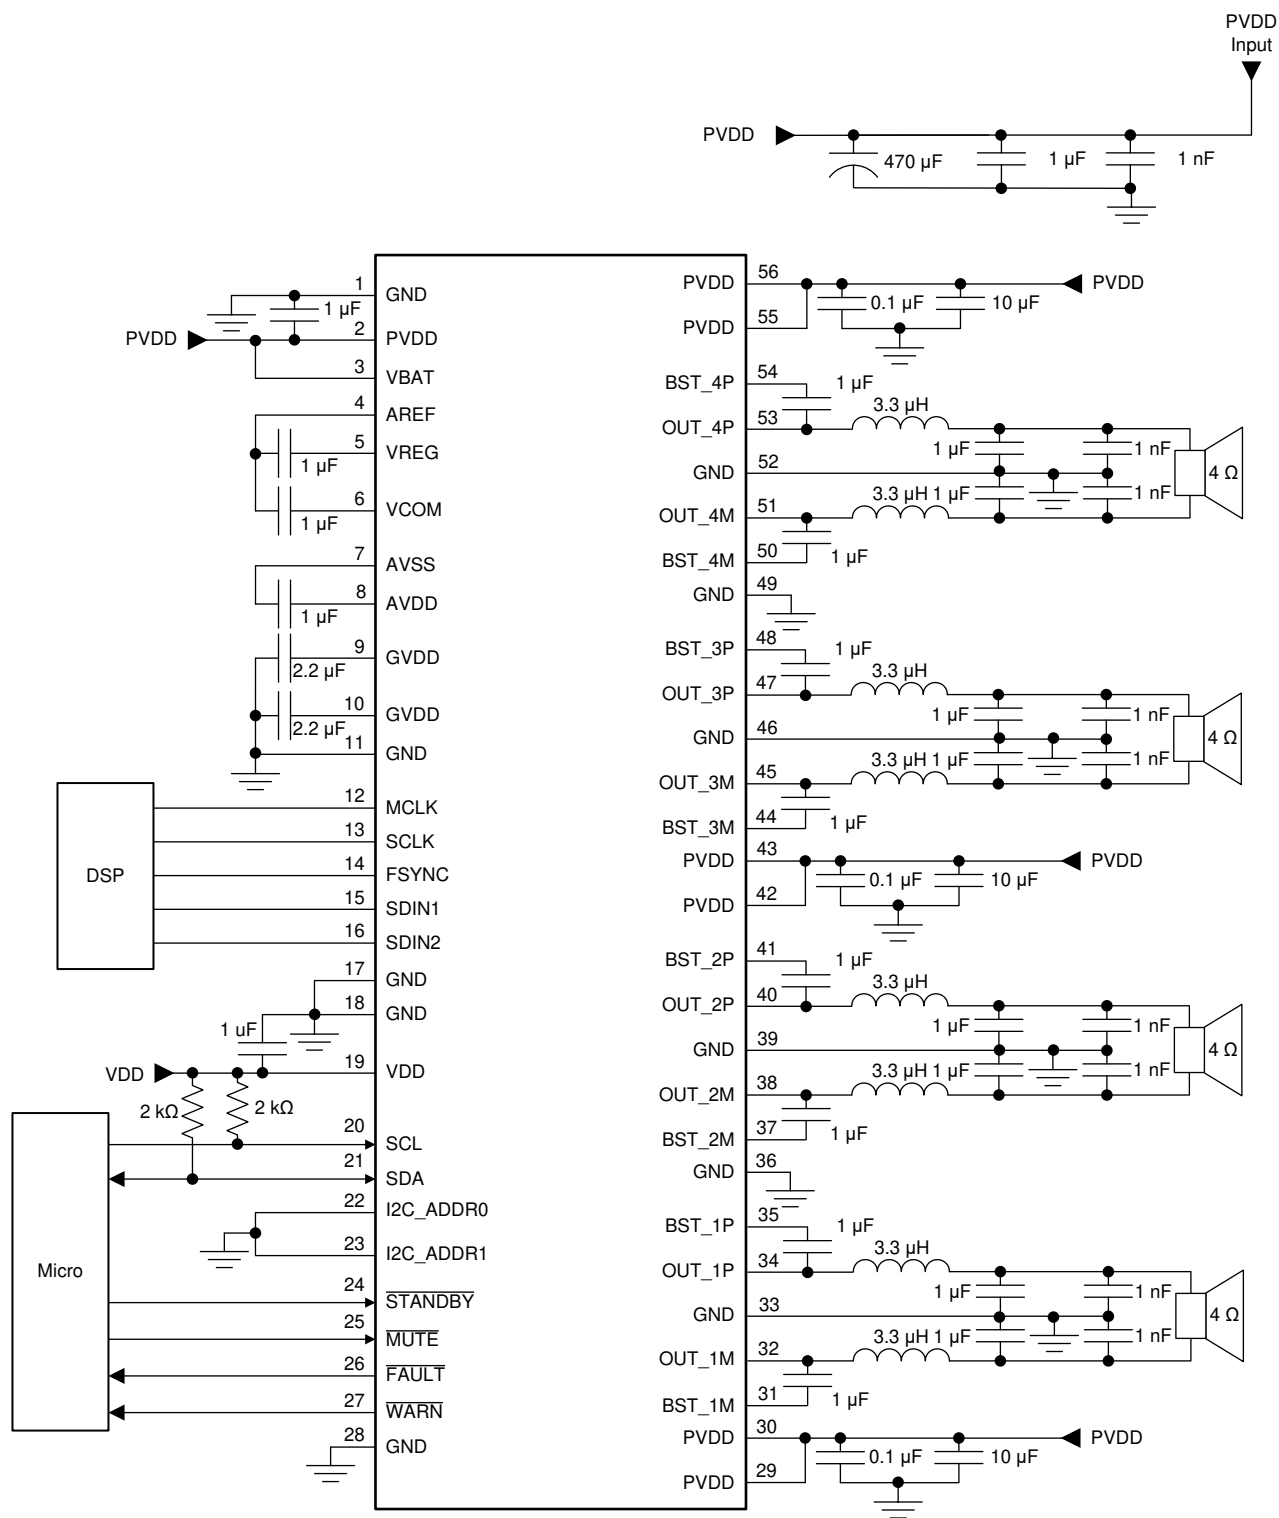

图 10-2. Typical 4-Channel BTL Application Schematic
图 10-2 shows the schematic of a typical 4-channel solution for a head-unit application.
- With the requirements, adjust the typical application schematic in Figure 10-2 for the input connections.